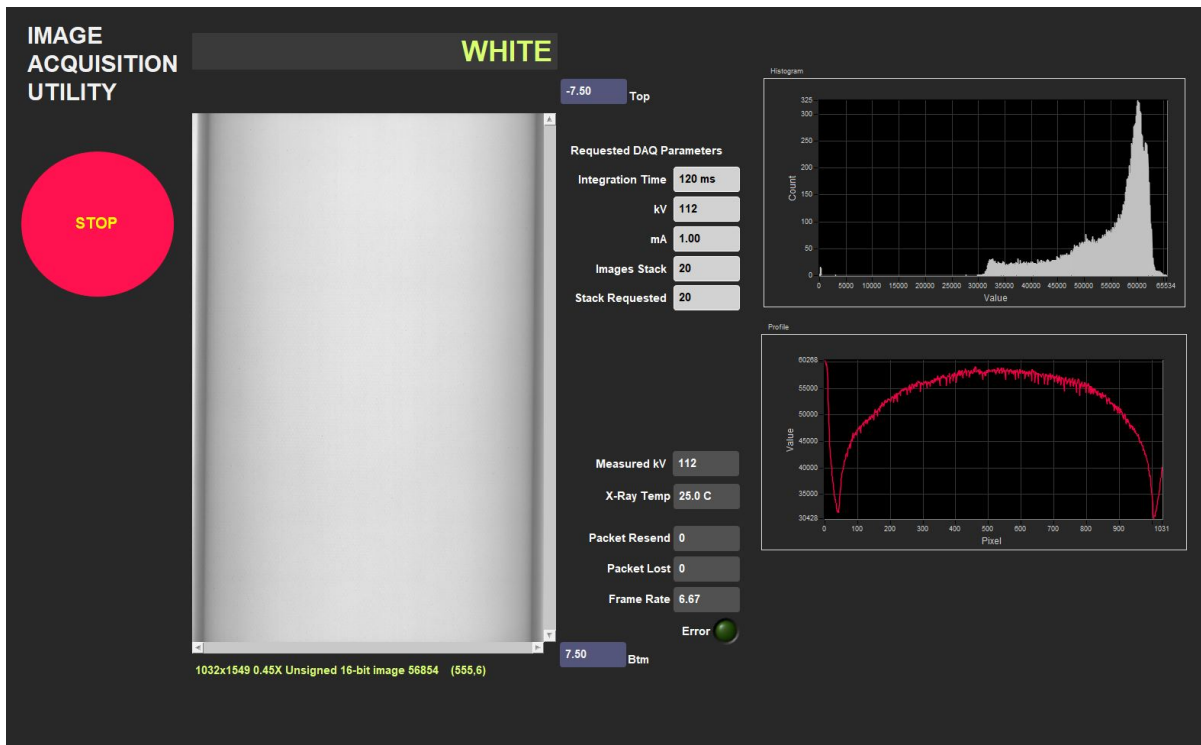

Figure 25- White Image Acquisition Window
- a. The **X-Ray Image Acquisition** window will open (Figure 25).